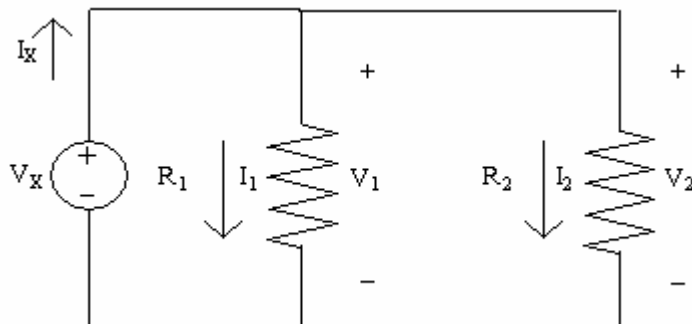

Figure 17
- a. Build the circuit shown in figure 17. Set V_x to be 7 V and $R_1 = R_2 = 1\text{ k}$.